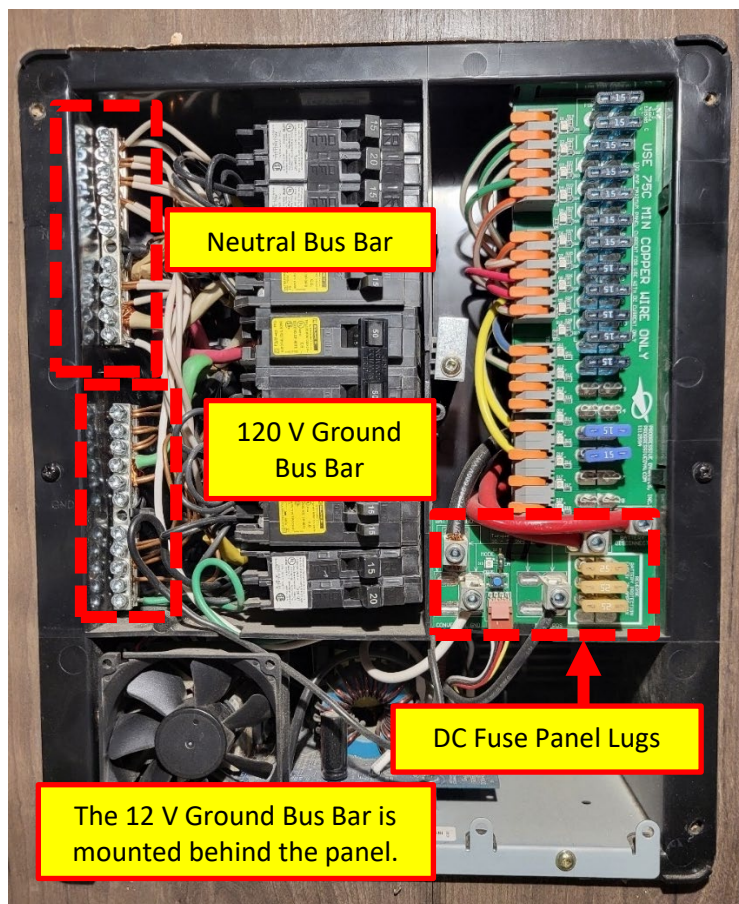

Figure 71. Progressive Dynamics Power Control Center with the safety cover removed. The converter is shown at the bottom, where the fan is.
4. Remove the power distribution center cover panel, exposing all ground and neutral bars for both AC and DC sides of the panel. See Figure 71.